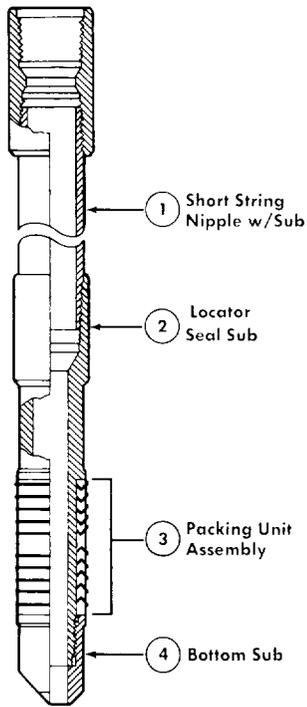

Fig. 13
5. Baker Model "A" Parallel Locator Seal Nipple, Product No. 702-A. (Refer to Fig. 13.) This product, which is made up on the bottom of the short string, is designed to seal off in the Sealing Bore contained in the Head of either of the Full-Opening Flow Tubes, thus packing off the short string from the casing above the upper Packer. Note that the Bottom Sub of this Nipple contains a bevel on one side to aid in guiding the short string into the Sealing Bore of the Flow Tube Head.